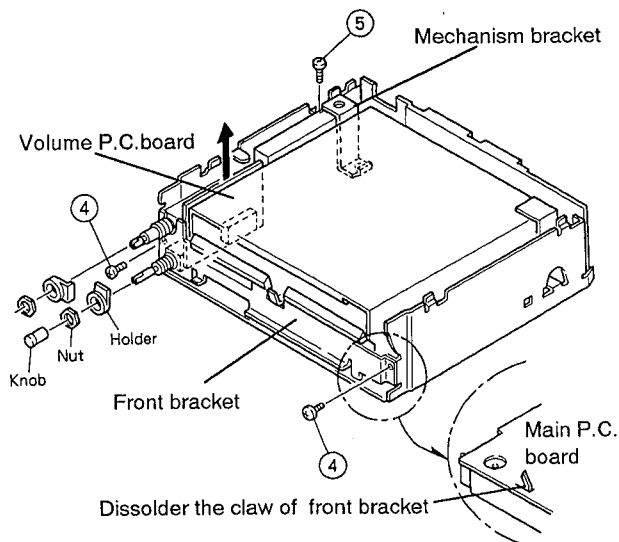
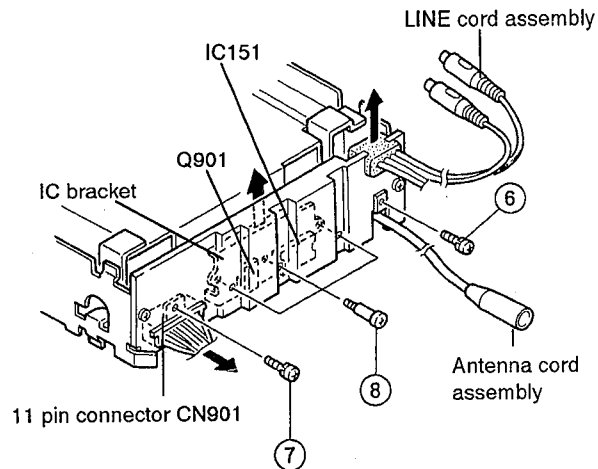

Fig. 4
Fig. 5
■ Volume P.C. board(refer to Fig.4)
3. Remove the two screws ④ retaining the front bracket from the main unit.
■ FM Tuner pack assembly(refer to Fig. 4)
1. Remove the screw ⑤ retaining the mechanism bracket from the main unit.
■ 11 pin connector CN901(refer to Fig.5)
1. Remove the screw ⑦ retaining the 11 pin connector CN901 from the rear panel.
■ Power IC IC151 and transistor Q901 (refer to Fig. 5)
1. Remove the three screws ⑧ retaining the IC151, Q901 and IC bracket from the rear panel.
■ Antenna cord assembly (refer to Fig.5)
1. Remove the screw ⑥ retaining the antenna cord assembly from the rear panel.
■ LINE cord assembly (refer to Fig.5)